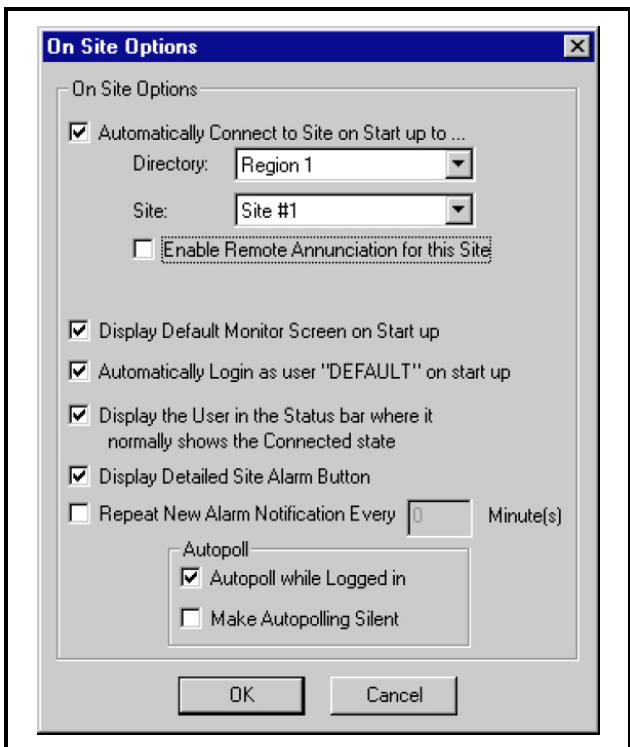

Figure 2-8 - On Site Options
4. If UltraSite will be used on-site to communicate using direct connect or network, check the Enable On Site Options box (**Figure 2-8**), and click the Advanced Options button to call up the on-site options box.